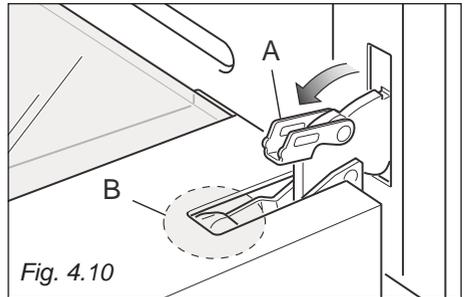

Fig. 4.10
- Open the lever "A" completely on the left and right hinges (fig. 4.10).
- Gently close the door until left and right hinge levers "A" are hooked to part "B" of the door (figs. 4.10, 4.11).